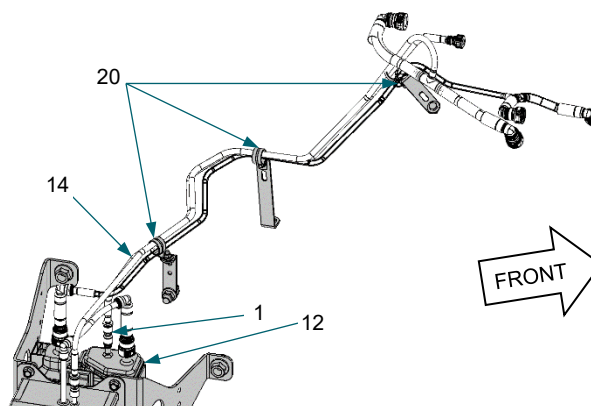

Figure 4: EVAP purge solenoid to EVAP cannister line (14), P-clamps (20), quick connect fitting (1), EVAP cannister (13).
2. Remove engine to EVAP purge solenoid to EVAP canister line (14) from quick connect fitting (1) on EVAP module (12). *Figure 4*
3. Loosen P-clamps (20) to release EVAP purge line (14). *Figure 4 Refer to OEM procedure.*
2. Remove engine to EVAP pump module box PCV line (16) from quick connect fitting (1) on EVAP pump module (12). *Figure 4*